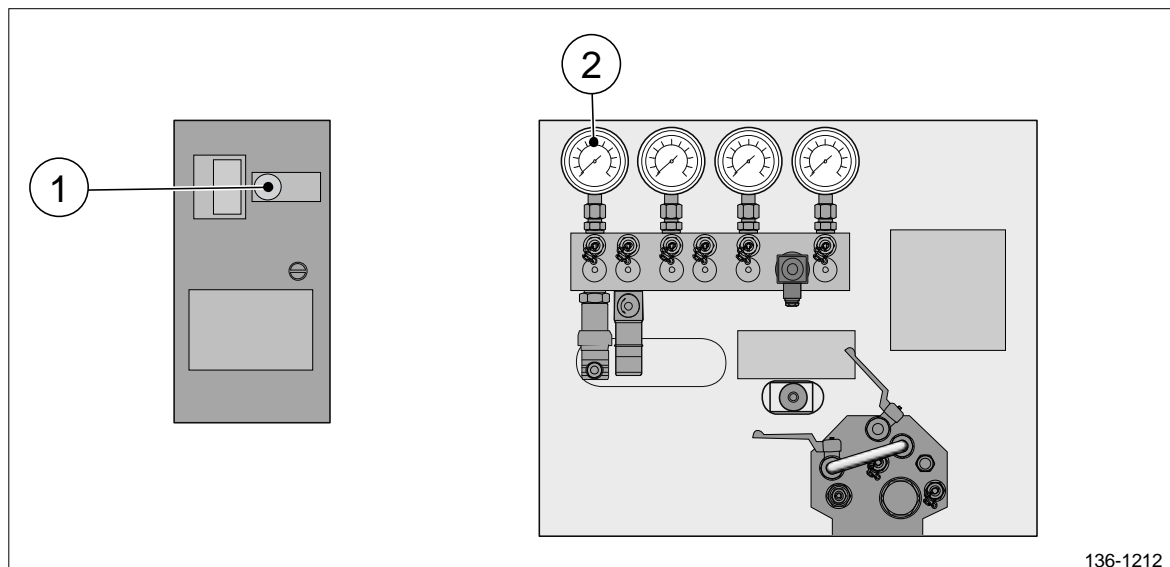

Figure 1 Control panel on the hydraulic power pack unit.
1. Make sure the local/remote switch on the hydraulic power pack is set to remote control (pos 1, figure 1).
4. Inspect the pressure gauge G1 (pos 2 figure 1) to make sure they indicate pressure.